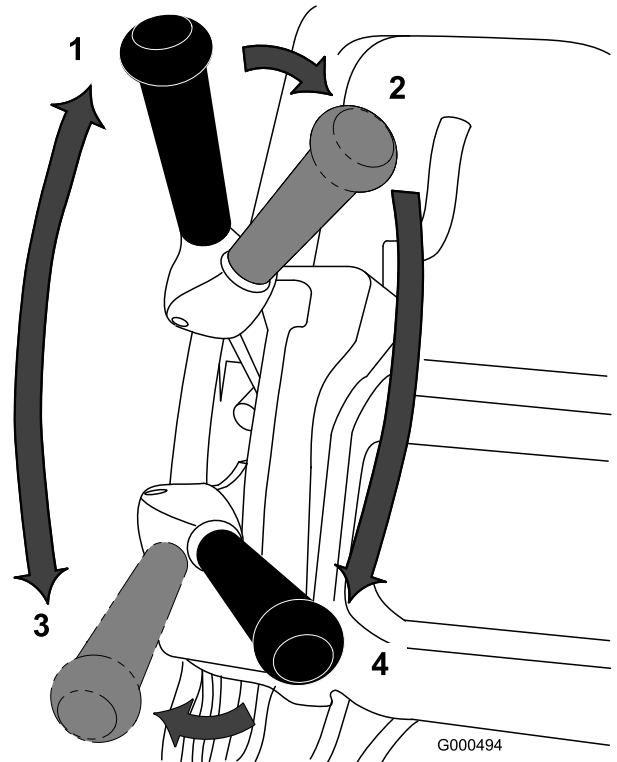

Figure 30
1. Start the engine, set the throttle to a reduced speed, push down on the handle to raise the cutting unit, press the operator-presence control, move the traction lever to the ENGAGED position and transport the machine onto the collar of the green (Figure 30).
2. Move the traction lever to the DISENGAGED position and engage the reel-drive lever (Figure 30).
3. Move the traction lever to the ENGAGED position, increase the throttle speed until the machine is traveling at the desired ground speed, drive the machine out onto the green area, lower the front of the machine down, and begin mowing (Figure 30).